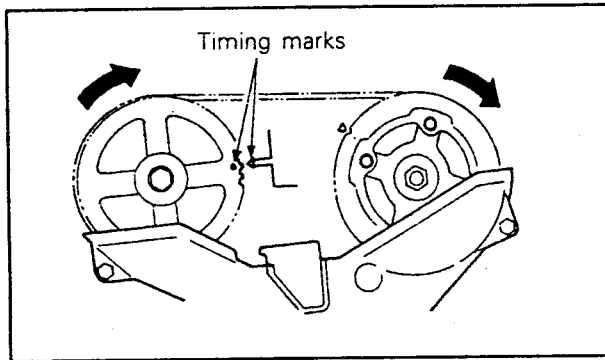

Fig. 15.6. — Align the two timing marks as shown to set the piston of No. 1 cylinder at top dead centre position.
- Counterhold the crankshaft against rotation and slacken the four crankshaft pulley bolts. Remove the cranking adaptor (1) and the crankshaft pulley (2).
- Unscrew the lower timing cover (4) and remove the gaskets.
- Rotate the engine until the piston of the No. 1 cylinder is at T.D.C. position on the compression stroke. To do this, rotate the crankshaft until the timing marks on the camshaft sprocket and the mark on the injection pump bracket are aligned as shown in Fig. 15.6. To check the correct position move the two rocker arms of the first cylinder. Both should have slight play. If this is not the case, rotate the engine a further revolution.